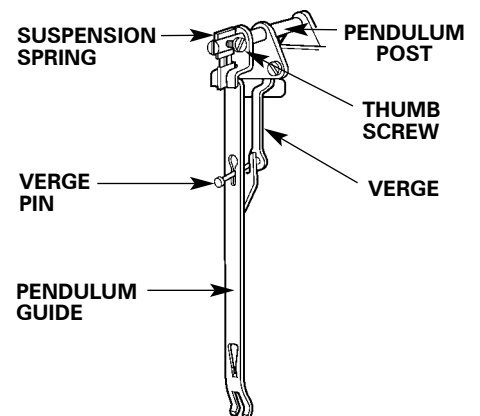

FIGURE 23
10. Did you remove the styrofoam blocks before they became loose through normal operation? (typically occurs after eight (8) hours of run time)
11. Did you check the suspension spring? If it is damaged, it must be replaced. (See figure 23).
12. Is the verge pin properly located in the slots of the pendulum guide? If not, reposition the verge pin. (See figure 23).